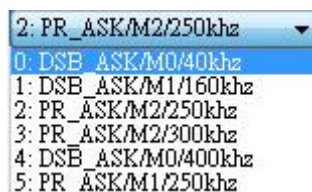

Figure 21
1. Link Profile: Sets the current link profile for the reader module, as figure 21. The option is as follows: